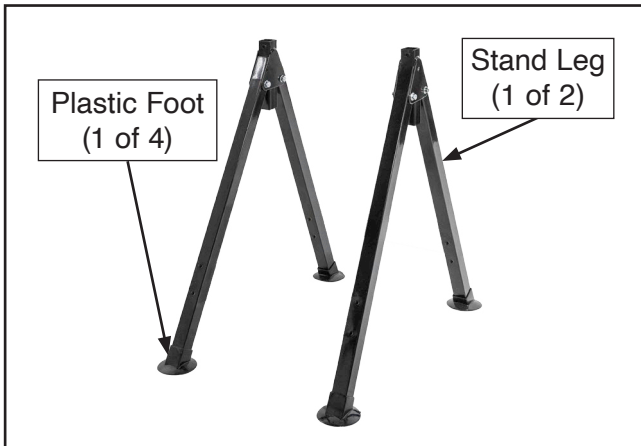

Figure 4. Plastic feet installed.
1. Slide (4) plastic feet onto bottoms of stand legs (see **Figure 4**).